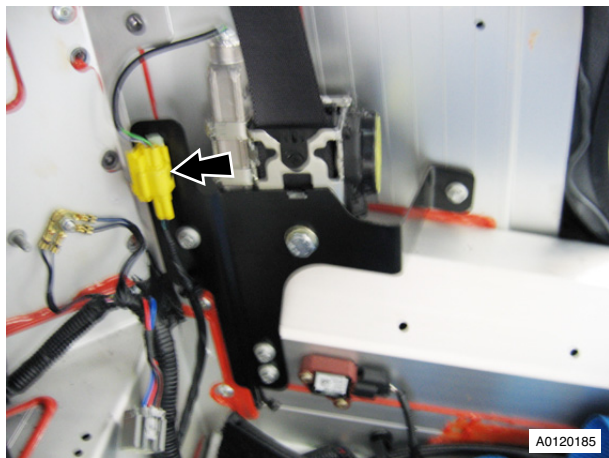

Fig. 14
48. Disconnect crash sensor, battery disconnect unit and pre-tensioner multiplugs (clipped to body x2) (see Fig. 14).